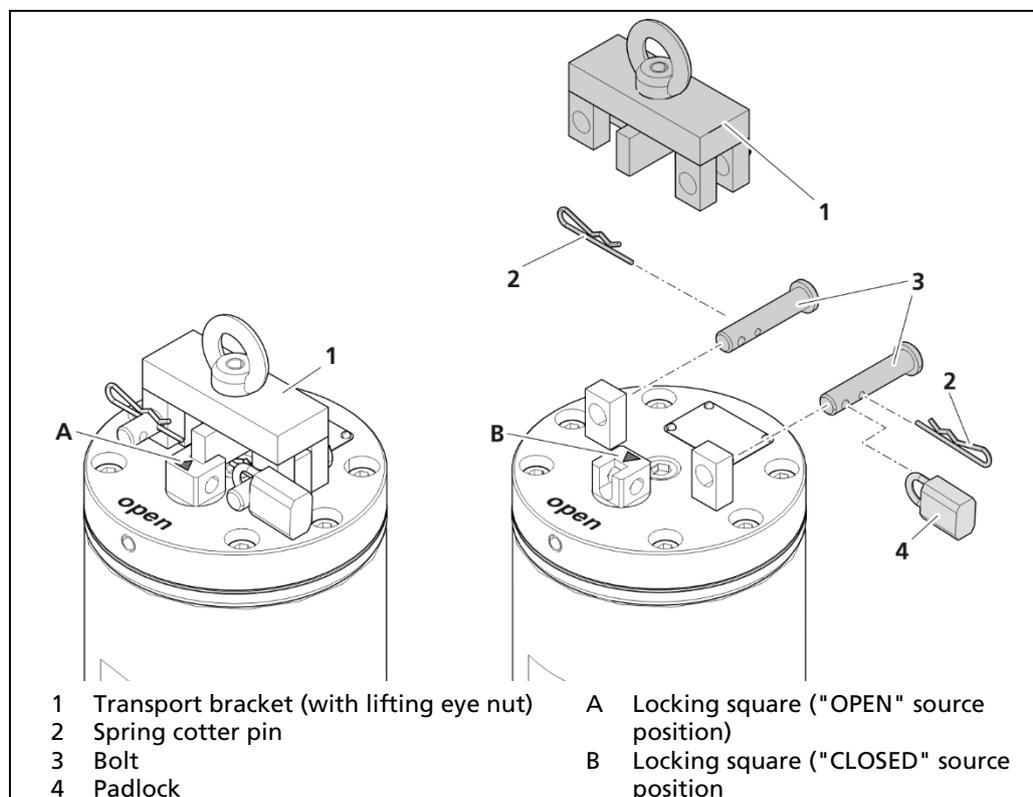

Fig. 5 Operation shield with transport bracket and source.
2. Ensure that the operation shield has been closed and secured (the arrow on the locking square must be pointed to the "CLOSED" position (Fig. 5, A) and the transport bracket (Fig. 5, pos.1) must be mounted).
9. Remove the shipping braces (Fig. 5, pos.2, pos.3, pos.4) and the transport bracket (Fig. 5, pos. 1) and do not open the mold level shield until immediately before commissioning the measuring system.
10. In order to open it, turn the locking square into the "OPEN" position (Fig. 5, B).